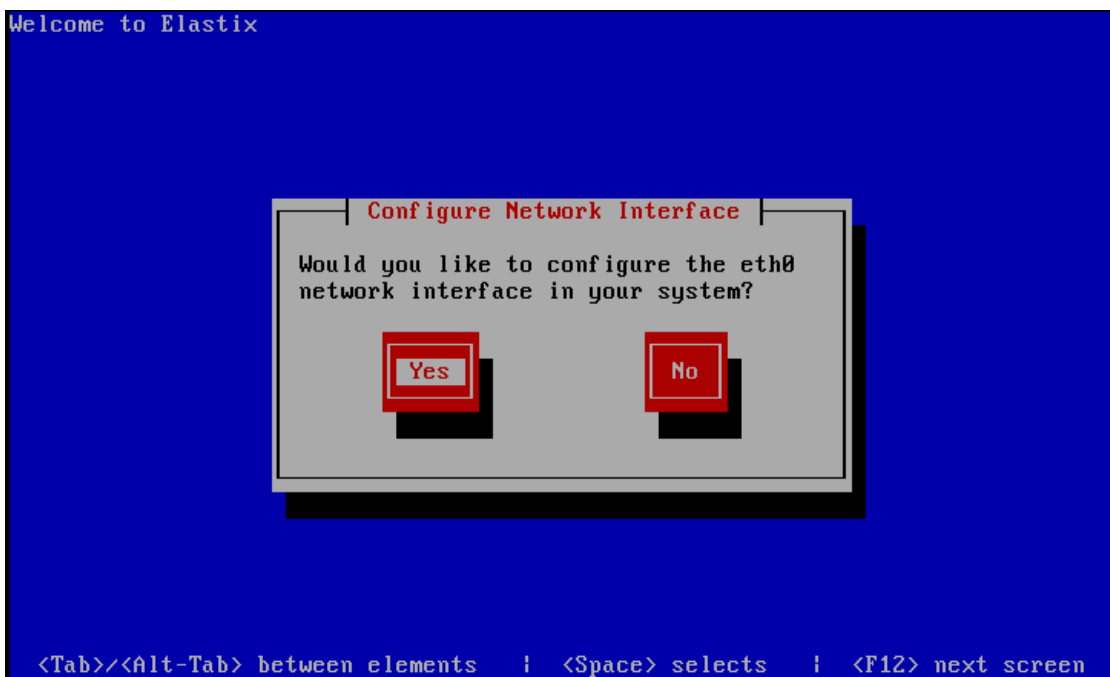

Figure 6
- Next, the following prompt 'Would you like to configure the eth0 network interface in your system?' pops up. Select 'Yes' here (Figure 6).